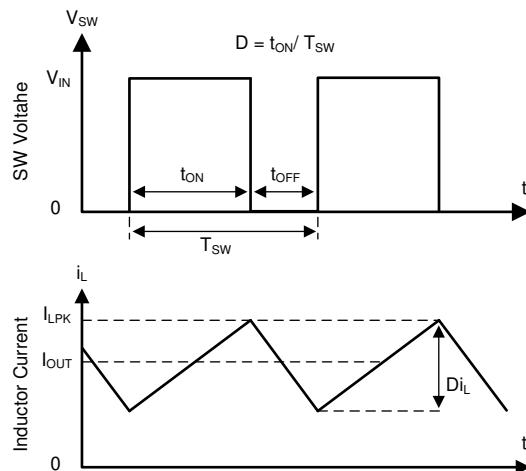

Figure 8-1. SW Node and Inductor Current Waveforms in Continuous Conduction Mode (CCM)
The following operation description of the LV3842 will refer to the Section 8.2 and to the waveforms in Figure 8-1. LV3842 is a step-down synchronous buck regulator with integrated high-side (HS) and low-side (LS) switches (synchronous rectifier). The LV3842 supplies a regulated output voltage by turning on the HS and LS NMOS switches with controlled duty cycle. During high-side switch ON time, the SW pin voltage swings up to approximately V_{IN} , and the inductor current i_L increases with linear slope $(V_{IN} - V_{OUT}) / L$. When the HS switch is turned off by the control logic, the LS switch is turned on after an anti-shoot-through dead time. Inductor current discharges through the low-side switch with a slope of $-V_{OUT} / L$. The control parameter of a buck converter is defined as Duty Cycle $D = t_{ON} / T_{SW}$, where t_{ON} is the high-side switch ON time and T_{SW} is the switching period. The regulator control loop maintains a constant output voltage by adjusting the duty cycle D. In an ideal Buck converter, where losses are ignored, D is proportional to the output voltage and inversely proportional to the input voltage: $D = V_{OUT} / V_{IN}$.